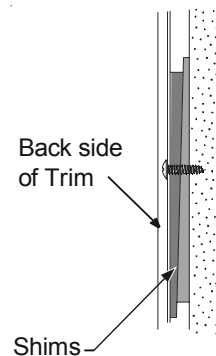

Figure 8
- Shim as necessary (shims are not included). See Figures 8 and 9 and 10. Next, secure both ends of top trim (A) to cabinetry using two 3/4" mounting screw (M) through the holes at each end. Make sure all screws are snug across the top.